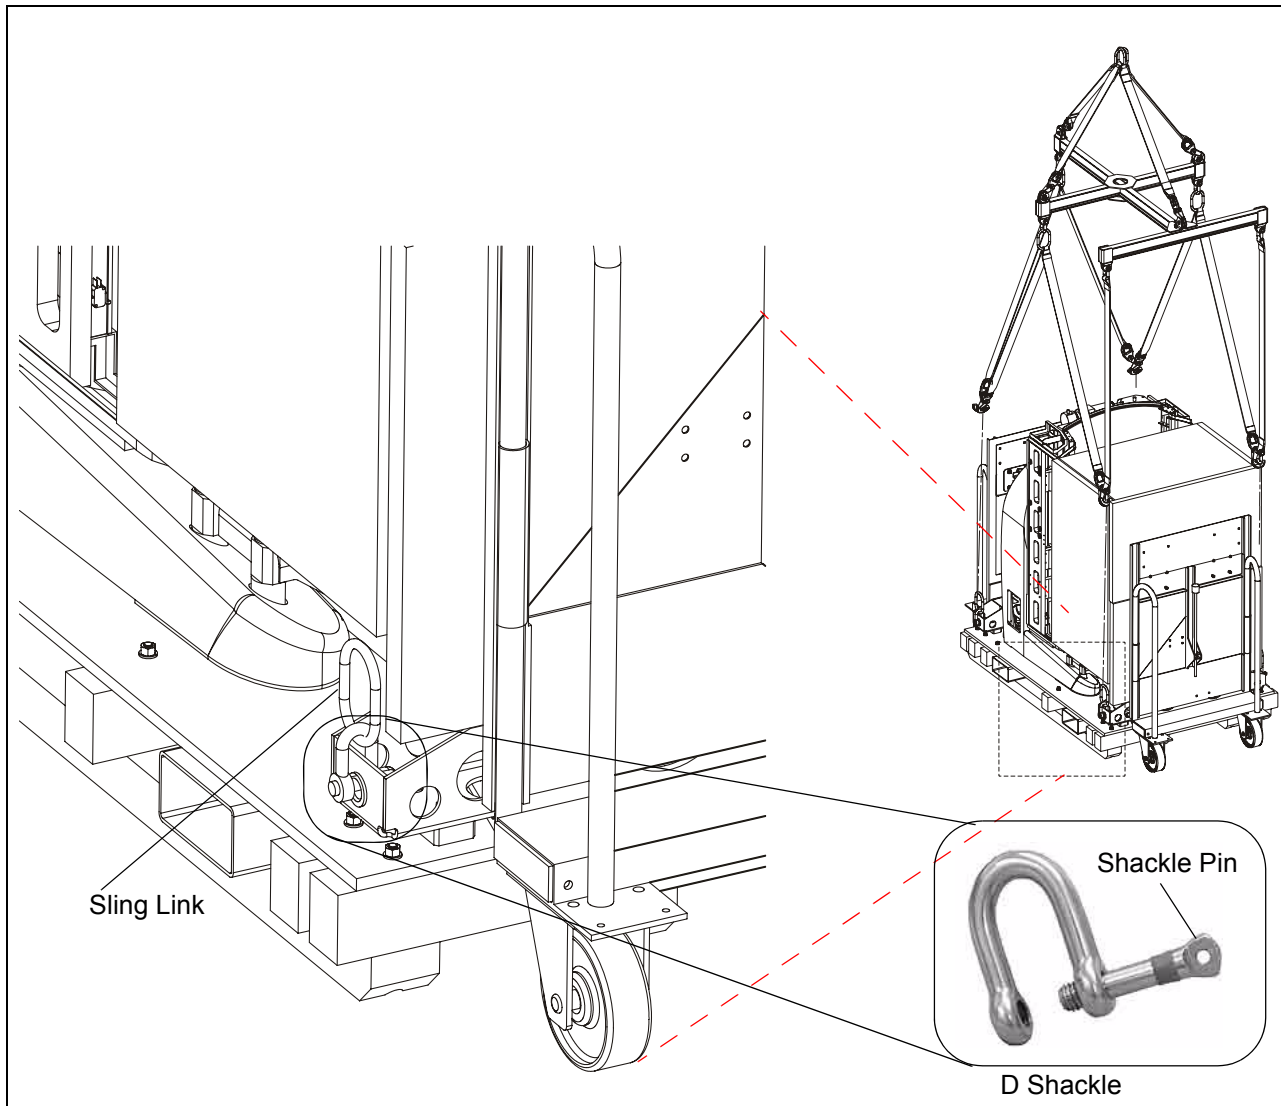
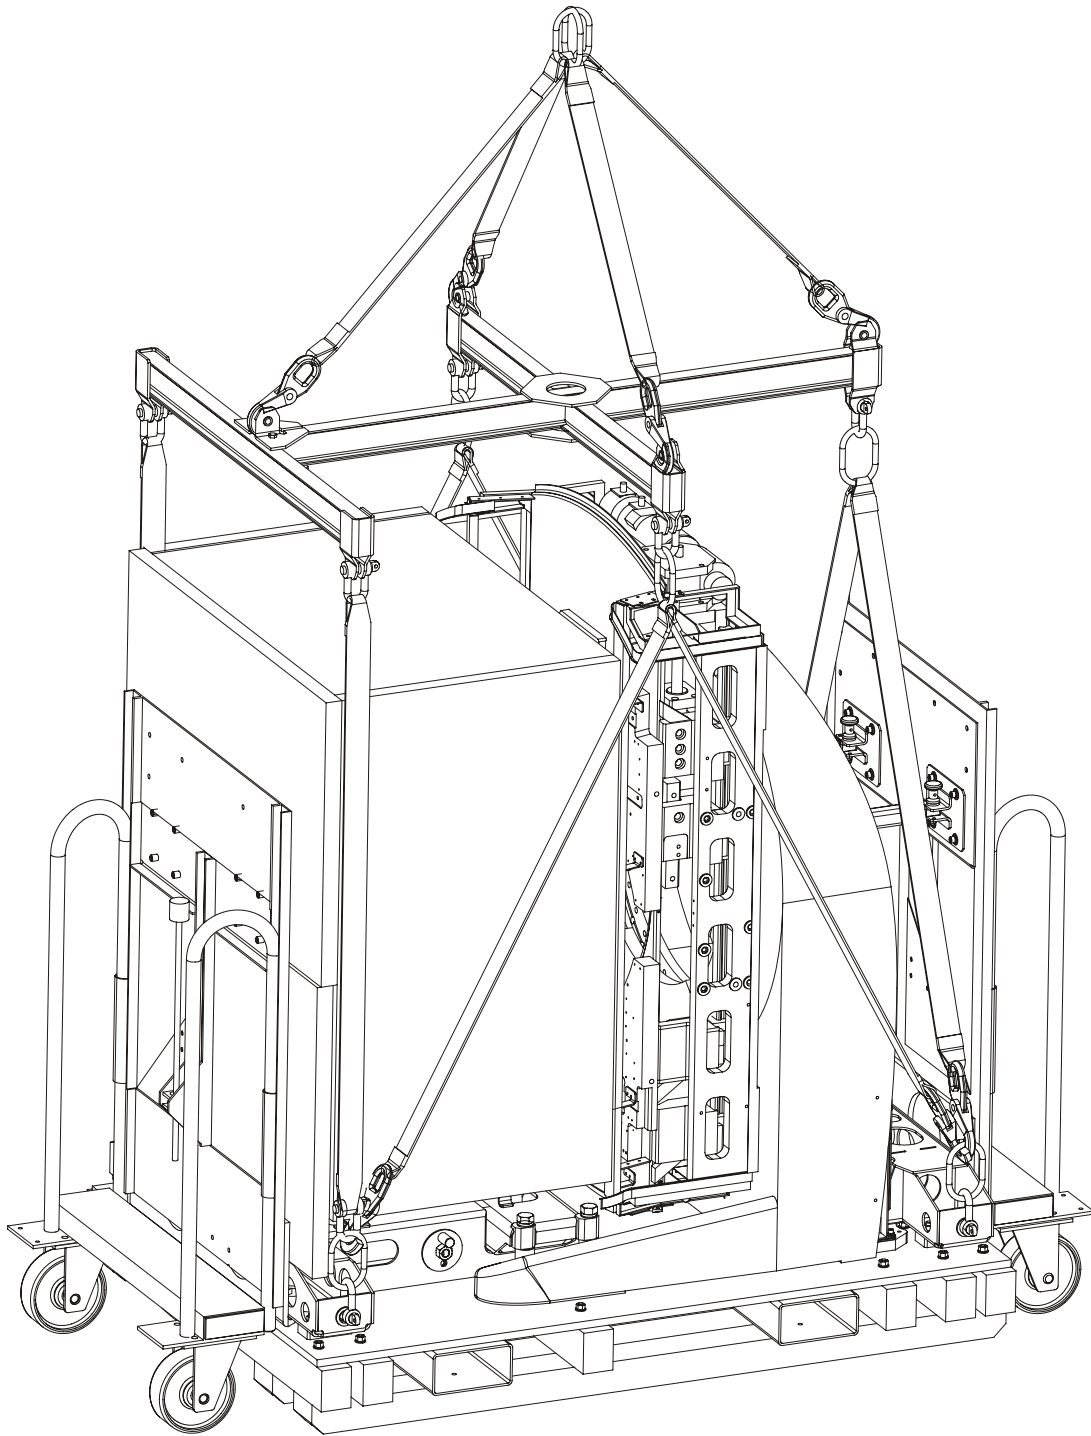

Figure C-1 Fitting the Lifting Assembly
Figure C-2 Lifting Assembly Fitted in Place
6. Unscrew the pins from the D shackles. Put sling links inside shackles and refit the pins into the D shackles through the holes in the four corners of the Stator support (rear of Gantry) and frame support assembly (front of Gantry). See Figure C-1 and Figure C-2.
7. Connect the lifting jig to the links (see Figure C-1). Be sure to attach the jig in the correct orientation.
5. Referring to Figure C-1: